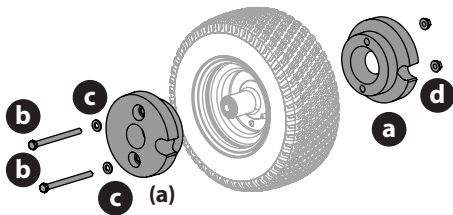

Figure 54
2. Remove the two 25-lb weights (a) on each tire by removing the two hex screws (b), flat washers (c) and flange lock nuts (d) that secure them to the rims (Figure 54).